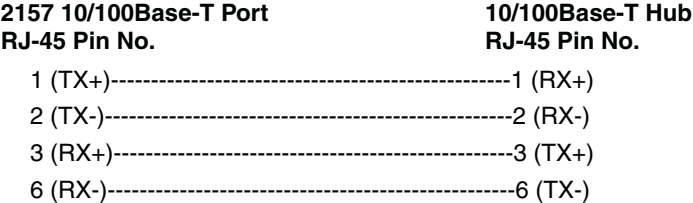
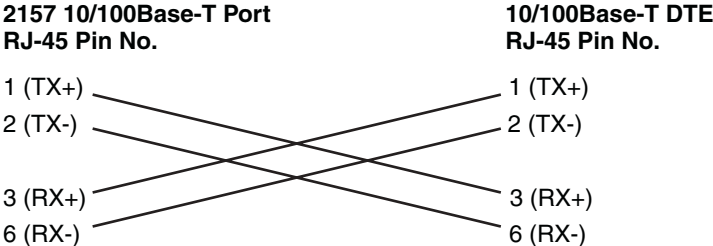

Figure 6. Wiring diagram for connecting the CopperLink Ethernet Extender to a 10/100Base-T hub (MDI-X switch released)
Figure 7. MDI-X switch pressed in performs 10/100Base-T crossover function
In its released position, the MDI-X switch enables straight-through connections (see Figure 6) or in its inserted position the MDI-X switch performs the crossover function (see Figure 7 on page 12).
- The supplies connection to the CopperLink Ethernet Extender is a 2.5 mm barrel receptacle with the center conductor positive (see Figure 6).